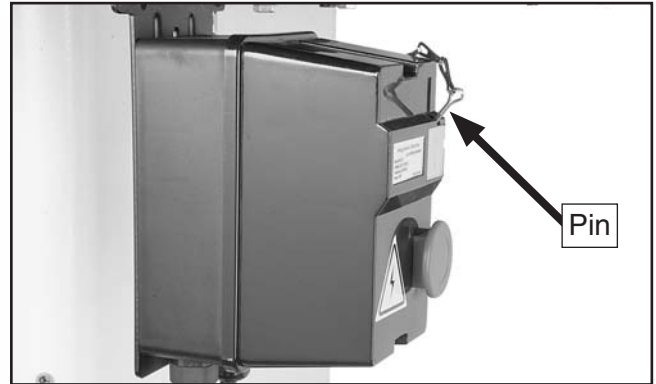

Figure 39. Switch disabling pin inserted into ON button.
6. Insert the switch disabling pin through the green ON button, as shown in **Figure 39**.